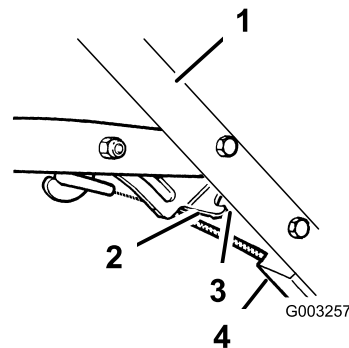

Figure 30
- A. Loosen the nut on the cable bracket (Figure 30).